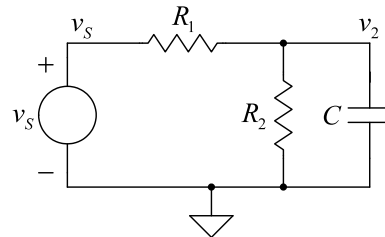
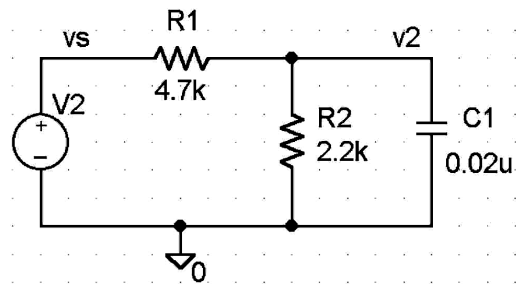

Figure 1. Drawn Schematic
Figure 2. PSPICE Schematic
- DV Step 1.** For the circuit of Figure 1, the default component values are: $R_1 = 4.7\text{k}\Omega$, $R_2 = 2.2\text{k}\Omega$, and $C = 0.02\mu\text{F}$ (your instructor may assign different values). Calculate the magnitude of the transfer function $\frac{v_2}{v_s}$ at frequencies for which the capacitor can be considered an open circuit. Also calculate the upper -3dB frequency of $\frac{v_2}{v_s}$ (see appendix A3.2).
- Step 3.** Enter the circuit of Figure 1 into PSPICE. Figure 2 shows the corresponding PSPICE schematic capture display after the part values are edited. The part values are edited by double-clicking on the value. These values should be the same as those used in Step 1. The part values and references (R1, R2, C1) may also be moved by clicking and dragging. The voltage source used here may be located by typing the part name "vsrc" in the **Draw/Get New Part** dialog box¹. The source parameter **DC** is its DC voltage. The source parameter **AC** is the magnitude of the source voltage for AC analysis (described before Step 7). Note that the parameter **AC** is used only for AC analysis; it is not the amplitude of the sinusoidal function of time produced for a transient analysis. For transient analyses, the source must be changed to the one called "vsin," and parameters for frequency, amplitude, offset, and phase must be entered. To edit the source
In Figure 1, the voltage source is labeled " v_s " because that is the name for the signal produced by that source. Hence the positive terminal node of the source is also labeled v_s . To label the corresponding node in PSPICE, double-click on a wire that is part of the node and a dialog box will appear. Assign labels to the nodes v_s and v_2 , as shown in the figure⁴.
⁴ Vers. 9: assign a *net alias* to each node. To do this, type capital "N", then type the alias in the dialog box, and then place the label on the schematic in contact with a wire that is part of that node. The display should look like Figure 2.
Step 14. Now edit the circuit of Figure 2 by replacing the **vsin** voltage source with the part **vpulse**. Assign the source parameters as given in Table 1. Again, run a transient simulation. Obtain plots of v_s and v_2 . Identify and record the "final" value to which v_2 settles after v_s transitions from 0V to 1V (but before v_s goes low again). Is this final value of v_2 consistent with the results of the DC sweep done earlier?
Item 5. What should be the phase response of the circuit of Figure 1 at its upper -3dB frequency? Do the simulation results from the AC and transient analyses agree?
Step3. Write a circuit file for the circuit of Figure 2 in SPICE code. This file should be a text file and have the extension ".cir". The first line of the circuit file must be the circuit title. The circuit file also contains *netlist* lines, which describe the circuit elements and their interconnection, and *command* lines, that specify the simulations to be done and their parameters. Finally, a *program control* line is at the end of the circuit file.